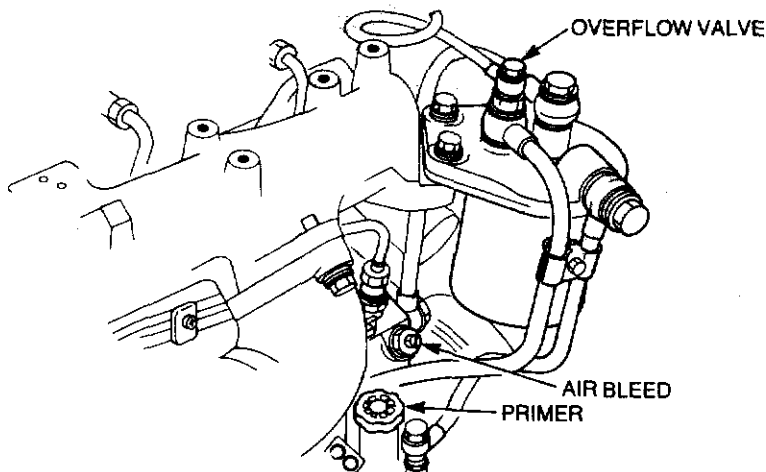

Figure 3-2 Bleeding the fuel system
- b. Loosen the overflow valve on the fuel filter adapter (see Fig. 3-2) and continue operating the primer until a solid stream of fuel flows from the valve.